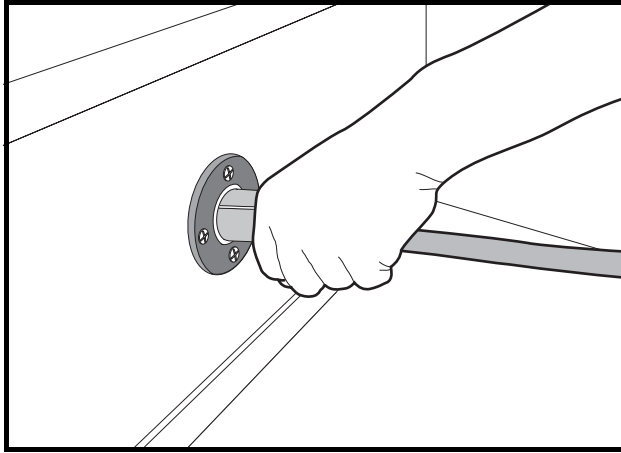
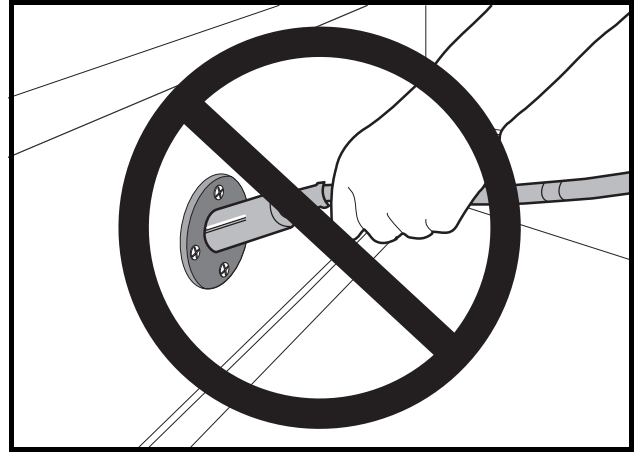

Figure 8-3 Charger Receptacle
Figure 8-4 Incorrect Charger Cord Removal
- The battery charger DC plug must be pulled slowly from the receptacle (Figure 8-3, Page 8-7). Jerking or pulling the DC cord out quickly could cause arcing that could damage the plug and receptacle and could cause batteries to explode (Figure 8-4, Page 8-7).
- Do not rock or bend the plug. To connect the charger plug to the vehicle receptacle, grasp the plug handle and push the plug straight into the receptacle (Figure 8-3).
- Do not pull on the DC cord (Figure 8-4). Do not twist, rock or bend the plug. To disconnect the charger plug from the vehicle receptacle, grasp the plug by the handle and pull the plug straight out of the receptacle.
2. Connect the charger DC plug to the vehicle charger receptacle located on the seat support panel (Figure 8-3, Page 8-7). The charger will activate automatically within 2 to 15 seconds after the DC plug is connected. **See following WARNING.**
When inserting the DC plug into the vehicle receptacle, align the raised guide on the plug with the guide slot in the receptacle and slowly push the plug straight in (**Figure 8-3, Page 8-7**). To disconnect the plug from the vehicle, firmly grasp the plug, not the cord (**Figure 8-4, Page 8-7**), and slowly pull plug straight out. **See following WARNING and CAUTION.**
- Do not rock or bend the plug. To connect the charger plug to the vehicle receptacle, grasp the plug handle and push the plug straight into the receptacle (**Figure 8-3**).